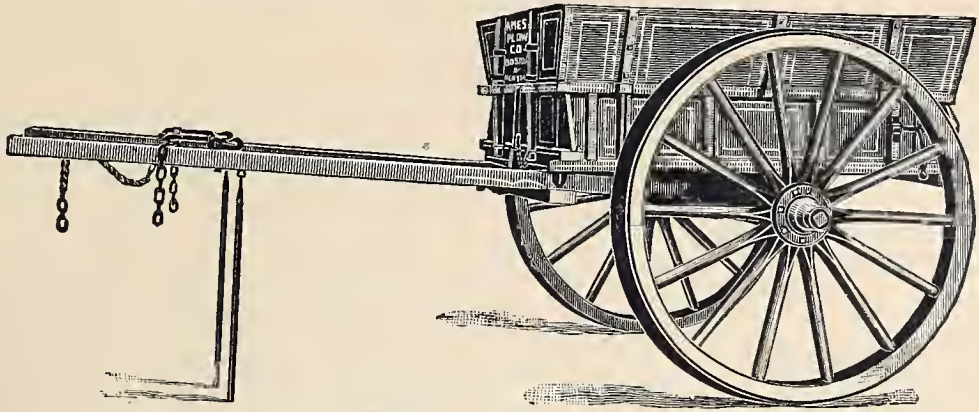

Fig. B 564.—Truckers' Cart.
**The Truckers' Cart.**—This is shown at *Fig. B 564*, and is made in two weights, the medium and the heavy. They are designed especially to supply the demand of market-truck farmers for a cart substantially built for carrying manure, vegetables, etc. They have flaring side-boards, and an adjustable dump-lock, which is very handy in unloading manure. The HEAVY CART has extra wide tires, so that even with the additional weight it can be used on plowed ground.